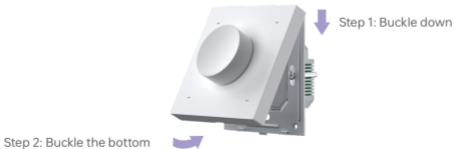

Figure 1
① Turn off the main power switch, and confirm that there are no attachments such as cement on the inner wall of the 86 junction box. Trim the length of the power cord inside the junction box to about 10 cm. Use a flat-blade screwdriver to pry open the bottom box of the knob panel, and find the NFC sensing area on the plastic part.
② Use your mobile phone to open the NFC Lighting APP, click [Read/Write Smart Device] on the "Home Page", bring the mobile phone sensing area close to the knob panel NFC sensing area, read the knob panel parameters, set the parameters according to your needs (see P8 for details), click [Write] in the upper right corner, and then bring the mobile phone sensing area close to the knob panel NFC sensing area, and you can directly write to the knob panel.
③ See Figure 1, after using the mobile phone's NFC to read and write parameters, connect the live wire to the L interface of the smart switch, and the neutral wire to the N interface, and confirm that the power cable is in good contact with the switch binding post and there is no exposed copper wire. (The circuit breaker rating should not exceed 35A)